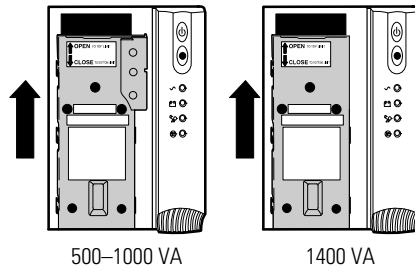

Figure 3. Removing the Battery Cover
3. Slide up and remove the metal battery cover (see Figure 3).